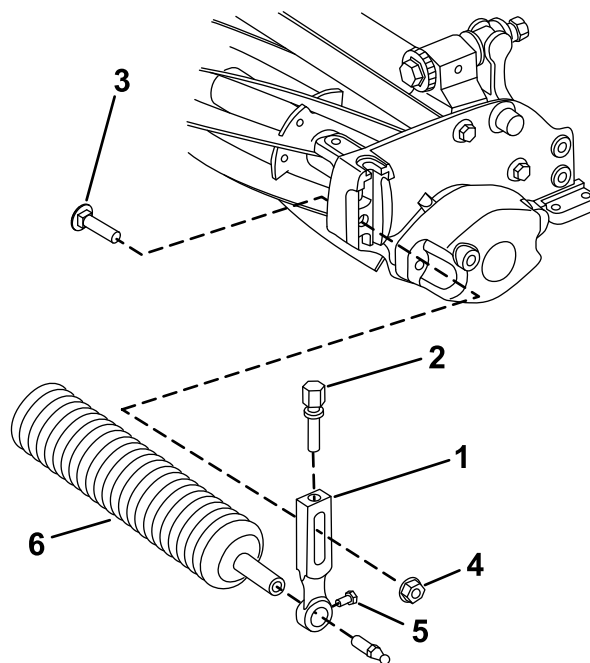

Figure 2
1. On the cutting unit, loosen the roller mounting screws securing each end of the front roller to the height-of-cut arms (Figure 2).
2. Remove the plow bolts and flange locknuts securing the height-of-cut arms to each end of cutting unit (Figure 2). Remove the height-of-cut arms and roller assembly.
3. Remove the height-of-cut adjusting screws and roller-mounting screws from the height-of-cut arms (Figure 2).